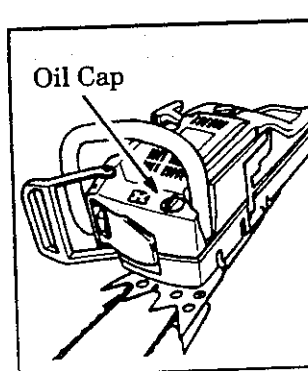

Figure 11
- b. Turn saw on its side, oil cap up. Figure 11.